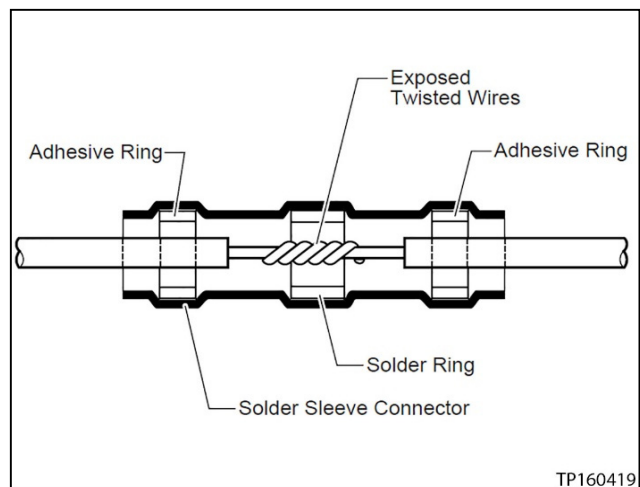

Figure 14
17. Slide the blue solder sleeve over the twisted pair and position it so that the solder ring is over the two twisted wires as shown in Figure 14.